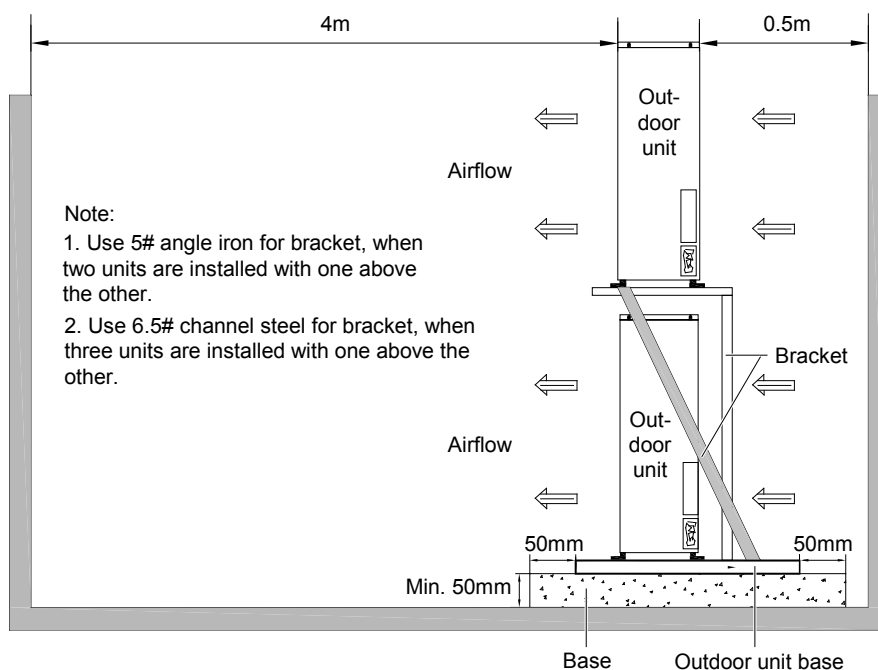

Figure 2-17
- Prepare a solid base capable of supporting the outdoor unit weight (refer listing 2.3). The base should be at least 50mm higher than the surrounding ground and 50mm larger than the dimensions of the outdoor unit base, as depicted in Figure 2-17.
If multiple outdoor units are needed to be installed one above the other, refer Figure 2-17 to install them.